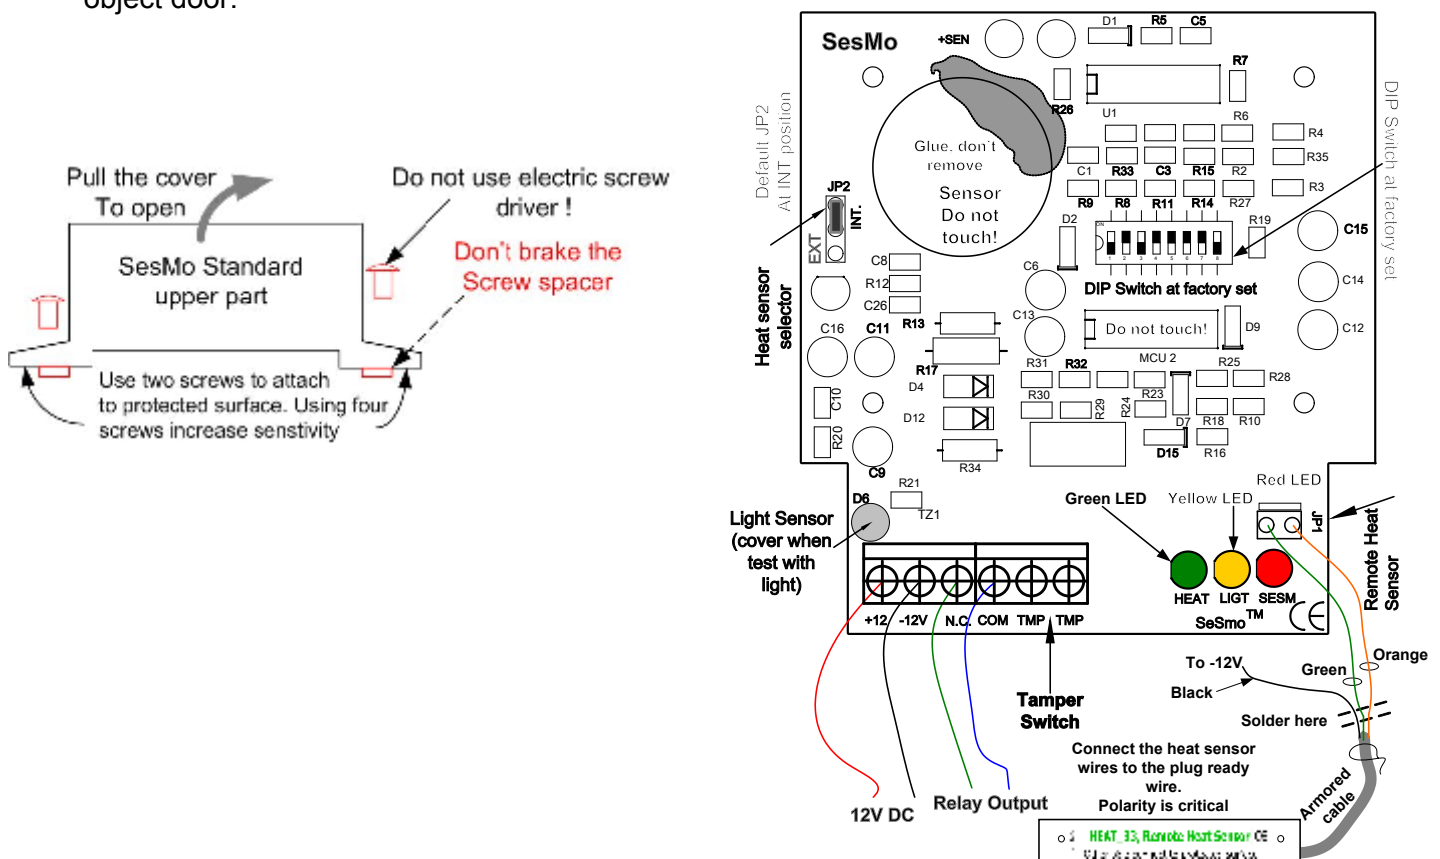

Figure 1: SesMo wiring diagram and indicators
1. Supply 12V DC Power according to the marked polarity (figure 1)
The SesMo contains an internal heat sensor, with an option to connect HEAT_33 external heat sensor, to select one of them use JP2 jumper, refer to figure 1.